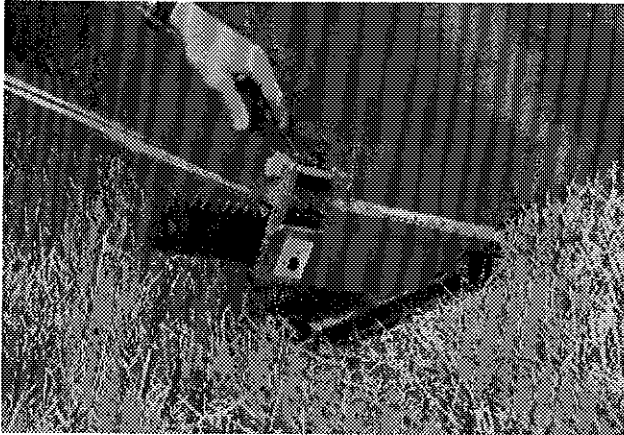

Figure 31
- 5) Adjust skid shoes according to ground conditions (Fig. 31).